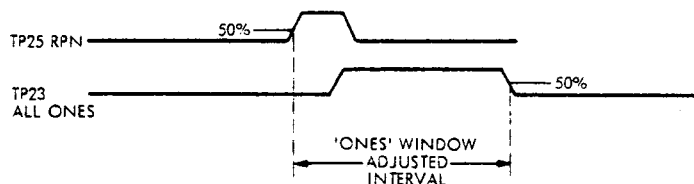

Figure 6-19. Read Pulse Narrow/'Ones' Window
- (1) Establish test configuration described in Paragraph 6.12.1.1.
- (2) Observe RPN waveform on oscilloscope Channel 1 (TP25), shown in Figure 6-19.
- (3) Measure RPN pulsewidth at the 50 percent points (on oscilloscope center line).
- (4) Acceptable Limits
- (1) Observe 'ones' window on oscilloscope Channel 2 (TP23) as shown in Figure 6-19.
- (2) Measure the adjusted interval, i.e., leading edge of RPN TP25 to trailing edge of 'ones' window TP23.
- (3) If the pulsewidth is not within  $\pm 5$  nsec (2400 rpm) or  $\pm 8$  nsec (1500 rpm) of setting, listed in Table 6-5, adjust R115 until readings are within  $\pm 3$  nsec (2400 rpm) or  $\pm 5$  nsec (1500 rpm).
- (1) Write all 'ones' pattern via the disk exerciser.
- (2) Observe 'ones' window on oscilloscope Channel 2 (TP23) as shown in Figure 6-19.